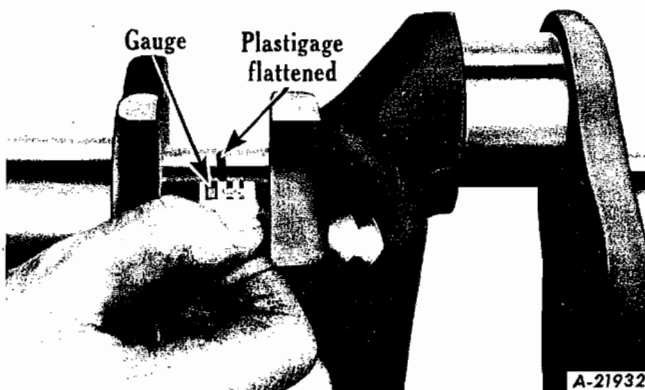

Fig. 67
- (e) To determine the bearing clearance, compare the width of the flattened plastigage at its widest point with the graduations on the envelope (Fig. 67). The number within the graduation on the envelope indicates the clearance in thousandths of an inch. **NOTE:** Do not turn crankshaft during the above procedure.